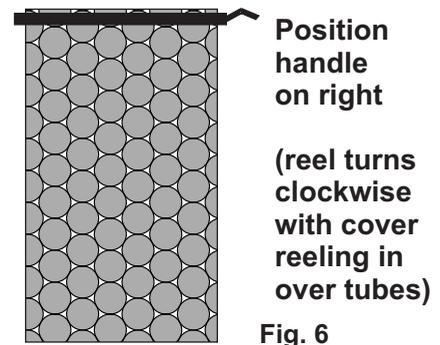

Fig. 6
- A. The reel is designed to turn **CLOCKWISE** with the cover coming **over the top**. The handle end will be placed on the **right** side of the reel when facing away from the main length of the pool (see Fig. 6).